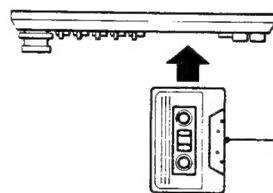

Fig. 1
1. Insert the cassette tape into the Cassette Insertion Slot ① until it is locked in position with the exposed piece of tape on the right. (The unit will automatically switch to the tape mode when a cassette is inserted while the radio is on.) (Fig. 1)
2. Adjust Volume ②, Balance ③, and Fader ① Controls. Pull out the Balance Control Knob ② and rotate to adjust balance.
3. Depress the Direction Change Button ⑦ to switch over from the side of the tape you are listening to now to the other side during play.